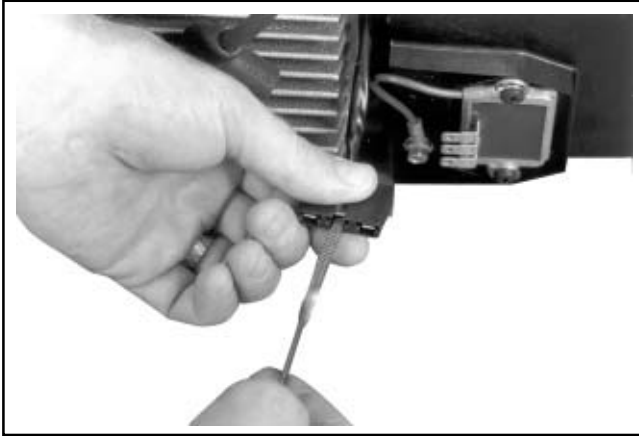

Figure 9-28. Remove B+ Lead from Terminal Plug.
2. Use the tip of the dipstick or a similar small flat tool to bend the locking tang, then remove the B+ (center lead) from the terminal plug as shown in Figure 9-28. This will allow the blower housing to be removed without disturbing the wiring harness.